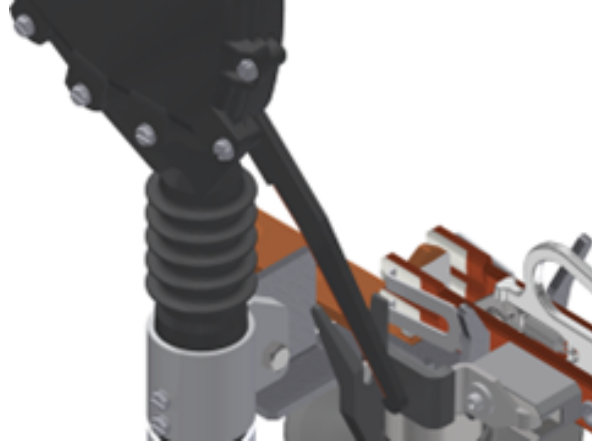

Figure 9: Blade deflector receiving the interrupter pick-up lever during opening.
- Upon initial opening, the “V” on the blade’s deflector should receive the interrupter pick-up lever. Refer to Figure 9